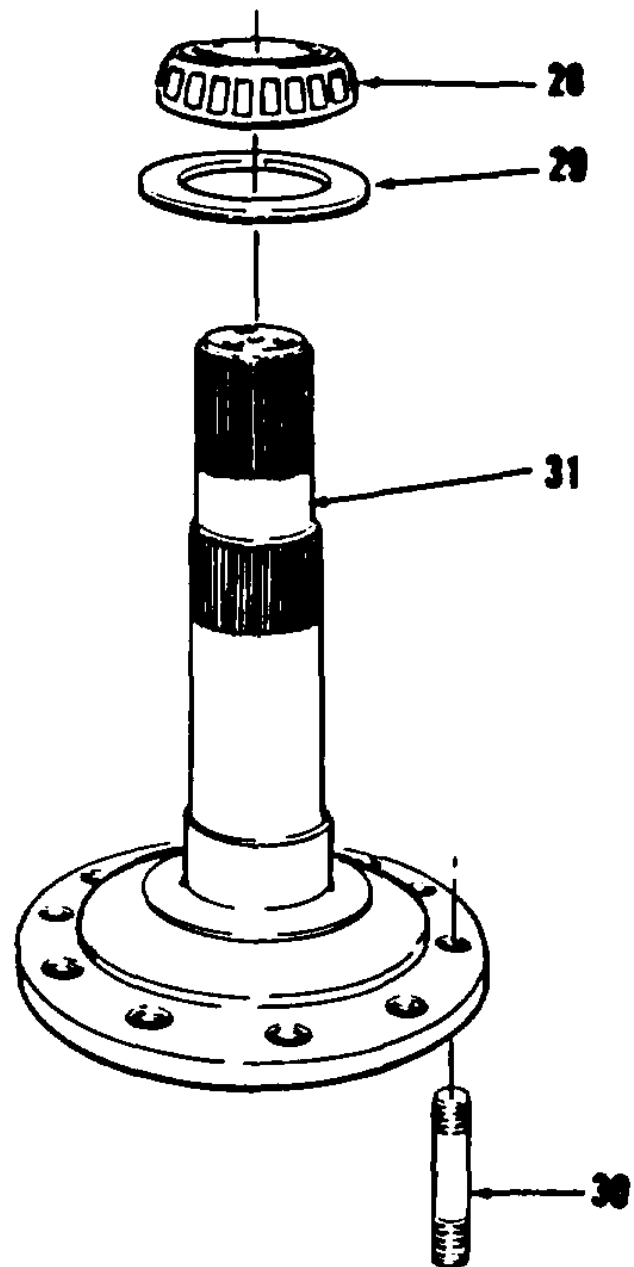

Figure 14-157.
22. Using a bearing separator and puller, remove cone (28) from spindle (31, Figure 14-157).
23. Remove seal assembly (29) and ten studs (30) from spindle (31). Discard seal assembly (29).
1. Install ten studs (30) in spindle (31, Figure 14-157).
2. Using seal installer, install seal assembly (29) in spindle (31).
3. Coat metal surface of seal assembly (29) with engine oil SAE 30.
4. Heat cone (28) in engine oil SAE 30 to a maximum temperature of 275 degrees F.
5. Install cone (28) on spindle (31).